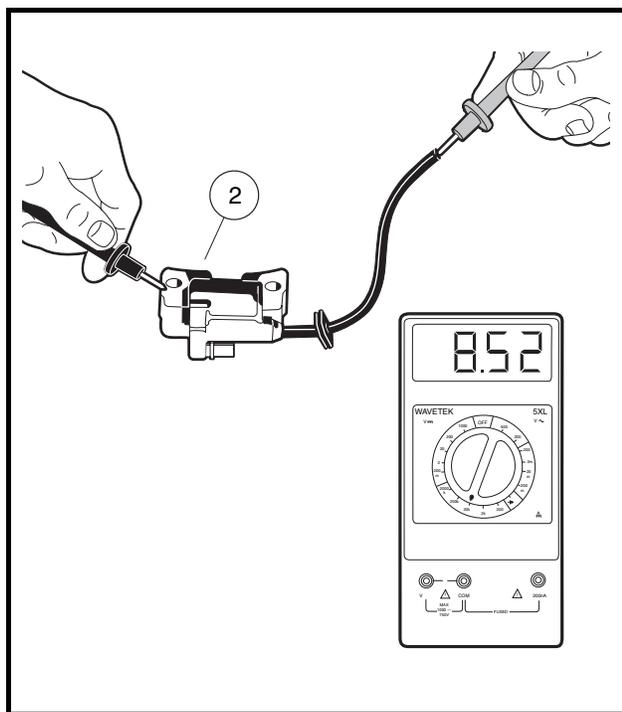

Figure 11-33 Secondary Coil Resistance – Bench Test
- 5.1. Using a multimeter set to 20k ohms, place the red (+) probe of the multimeter into the end of the spark plug wire and place the black (–) probe on the core (2) (**Figure 11-33, Page 11-30**). If the resistance is between 6.0k - 11.0k ohms, the secondary coil is within acceptable limits. If the resistance is not between 6.0k - 11.0k ohms, the ignition coil has failed and must be replaced.